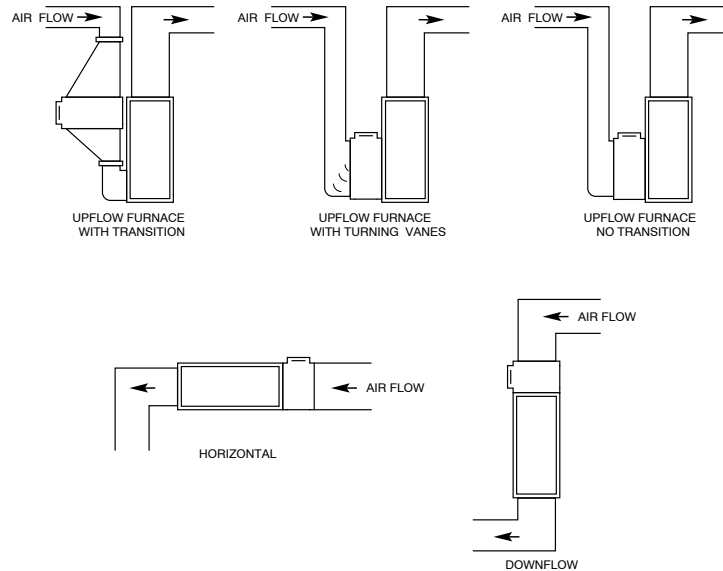
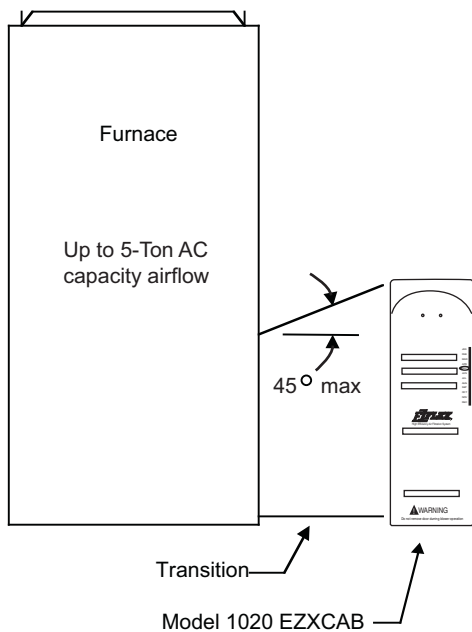

Fig. 3 - Typical Mounting Positions
Fig. 4 - Furnace
The best location for the High Efficiency Air Filtration System cleaner is in the return air duct next to the blower compartment. In this location, the blower motor and cooling coils will be kept clean. Do not install the air cleaner in the discharge (supply) air duct. Before installing this High Efficiency Air Filtration System cleaner, consider the application. If a transition is required, refer to Fig. 3 or Fig. 4. The unit must be readily accessible for periodic inspection and replacement of EZ-Flex™ filter to maintain maximum efficiency and trouble-free operation.
4. Locate the cabinet in the cold air return duct so that all of the return air flows through the unit. If the furnace and air cleaner openings are different, use a transition. See Fig. 3.